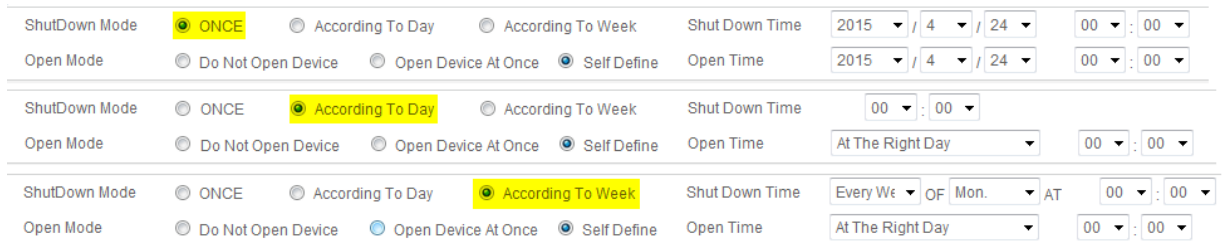

Figure 3-22 Format of shutdown time
2. The format of **ShutDown Time** changes with different options of **ShutDown Mode** automatically, as shown in Figure 3-22.